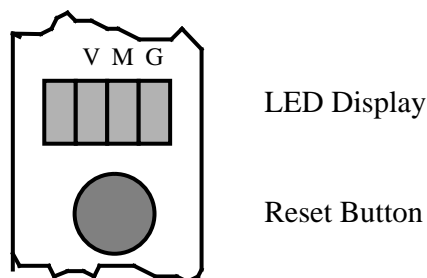

Figure 5: Front View at LED Display and Reset Button
- The display shows the 4 bit contents of the Status-Register (see Figure 5:) written on D7-D4 if this value is less than 8, usually after power-up or reset.